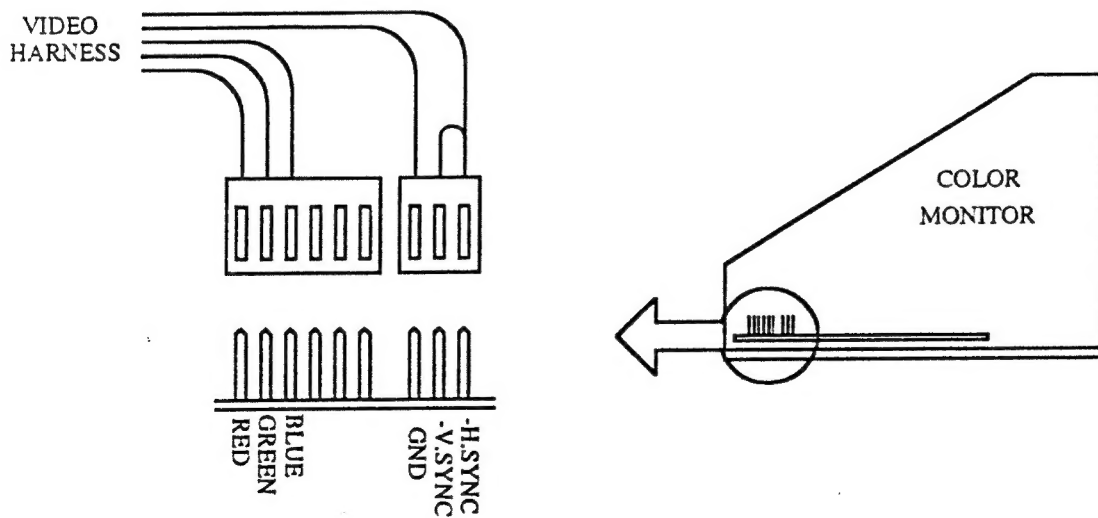

FIGURE 6
15. Connect the T.V Monitor as shown in figure 6.